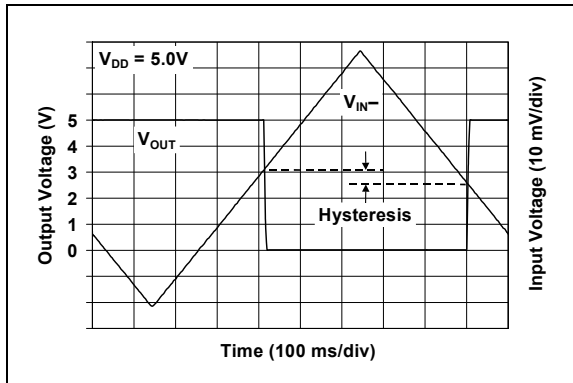

FIGURE 4-1: The MCP6561/1R/2/4 comparators' internal hysteresis eliminates output chatter caused by input noise voltage.
The MCP6561/1R/2/4 family has internally-set hysteresis V_{HYST} that is small enough to maintain input offset accuracy and large enough to eliminate output chattering caused by the comparator's own input noise voltage E_{NI} . Figure 4-1 depicts this behavior. Input offset voltage (V_{OS}) is the center (average) of the (input-referred) low-high and high-low trip points. Input hysteresis voltage (V_{HYST}) is the difference between the same trip points.
The ESD protection on the inputs can be depicted as shown in Figure 4-1. This structure was chosen to protect the input transistors, and to minimize input bias current (IB). The input ESD diodes clamp the inputs when they try to go more than one diode drop below V_{SS} . They also clamp any voltages that go too far above V_{DD} ; their breakdown voltage is high enough to allow normal operation, and low enough to bypass ESD events within the specified limits.
In order to prevent damage and/or improper operation of these amplifiers, the circuits they are in must limit the currents (and voltages) at the V_{IN+} and V_{IN-} pins (see Maximum Ratings* at the beginning of Section 1.0 "Electrical Characteristics"). Figure 4-1 shows the recommended approach to protecting these inputs. The internal ESD diodes prevent the input pins (V_{IN+} and V_{IN-}) from going too far below ground, and the resistors R_1 and R_2 limit the possible current drawn out of the input pin. Diodes D_1 and D_2 prevent the input pin (V_{IN+} and V_{IN-}) from going too far above V_{DD} . When implemented as shown, resistors R_1 and R_2 also limit the current through D_1 and D_2 .